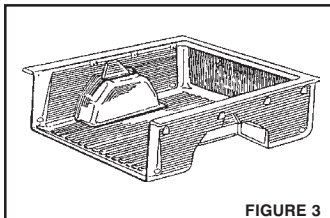

FIGURE 3
STEP 4 (FIGURE 3)
Place bedliner with loosely hanging "Liner-Lok™" fasteners into truckbox. Pull the bedliner rails away from truck rails and push downward starting at front corner, until forward "Liner-Loks™" slip under the truck rails. Make certain that all "Liner-Lok™" fasteners have slipped under the truck rails before tightening (see FIGURES 3, 4 & 5).
ÉTAPE 4 (FIGURE 3)
Utiliser les huit vis fournies dans le nécessaire de pose (voir la FIGURE 3) pour fixer la doublure au hayon. Il faudra utiliser un tournevis cruciforme.